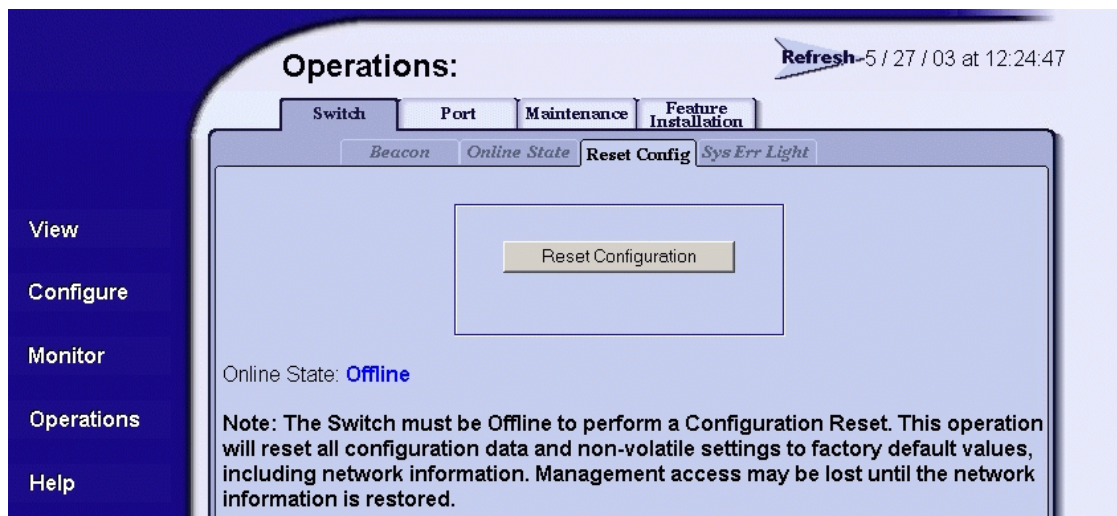

Figure 4-35 Operations Panel (Switch Page with Reset Config Tab)
4. Click the *Reset Config* tab. The *Switch* page displays with the *Reset Config* tab selected (Figure 4-35).